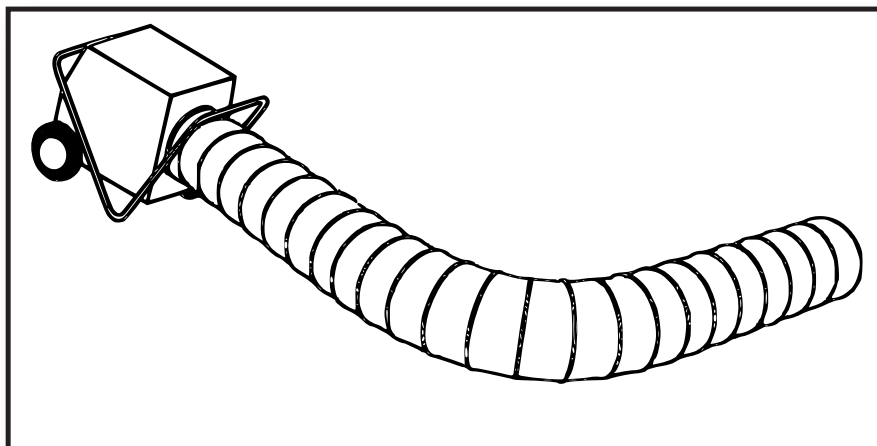

Fig. 7
▶▶ 6. PUNA ME TELIN E SHPËRNDARJES SE AJRIT TË NXEHTË (FIG. 7)